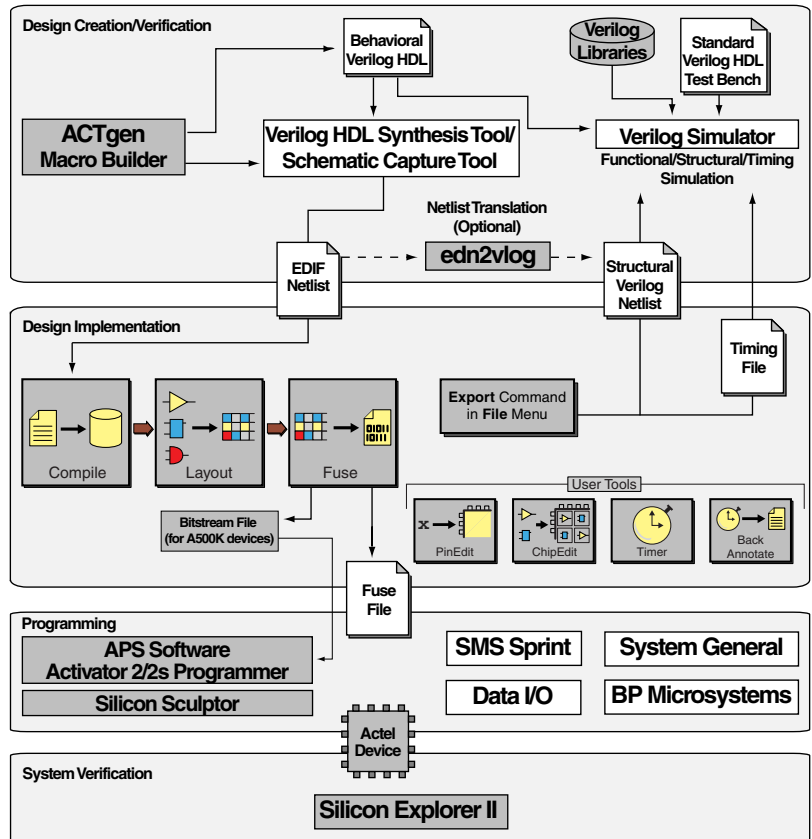

Figure 2-1. Actel-Verilog Design Flow
Figure 2-1 shows the design flow for an Actel device using CAE software, a Verilog simulation tool, and the Designer Series software¹.
1. The grey boxes in Figure 2-1 denote Actel-specific utilities/tools.